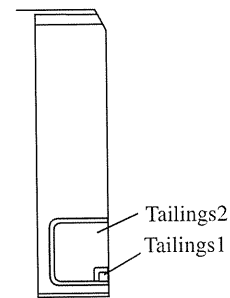
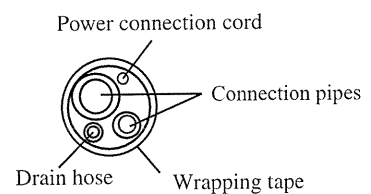

Fig.5
Fig.6
1. When routing the piping and wiring from the left or right side of the indoor unit, cut off the tailings from the chassis if necessary (shown in Fig.5).
- ① Cut off tailing 1 when only power cord is routed.
- ② Cut off tailings 1 and 2 when connection pipe and power cord are routed.
2. Wrap the piping and wiring and pull them through the cut-off tailings hole (shown in Fig. 6).